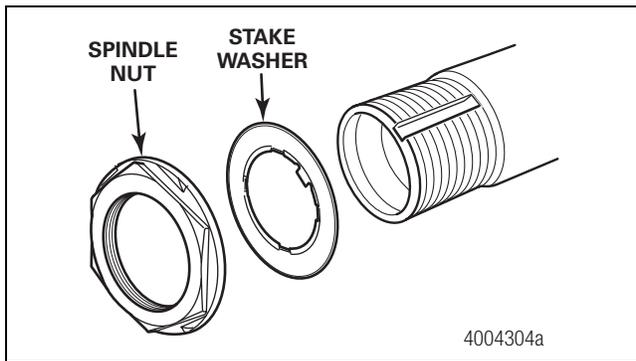

Figure 8
3. Check the spindle threads. Figure 8.